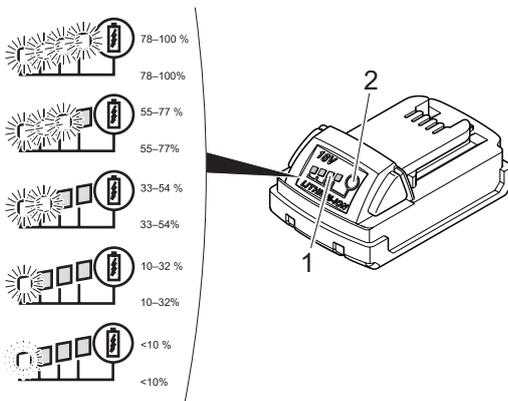

Fig. 9: Checking the battery charge level
- ▶ Press the button (Fig. 9/2).
The number of illuminated LEDs (Fig. 9/1) indicates the charge status. A flashing LED indicates less than 10 % charge level.